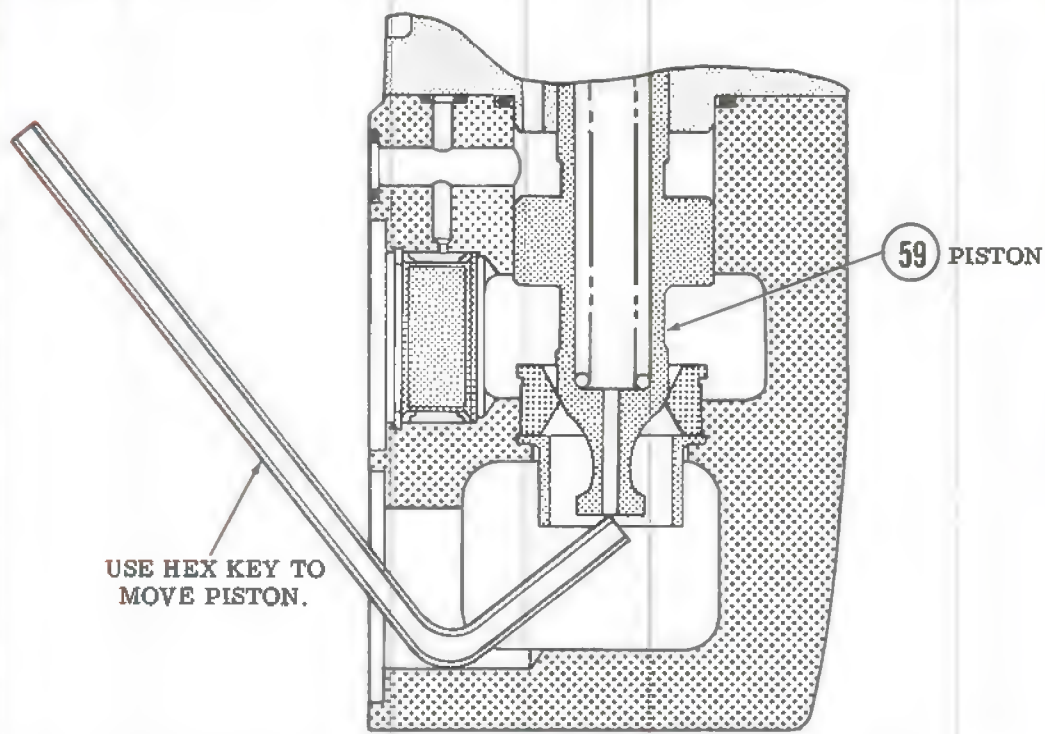

Figure 4. Check of main piston for bind.
3. If rollpin (69) was removed, make sure the mounting surface is flat before installation of a new rollpin.
4. Install plugs (67, 66, and 65) into body (71). Plug (67) exists on the -S6 models only. Use new "O" ring (68) on plug (67).
5. Install "O" ring (64), filter screen (63) and retaining ring (62) into body (71).
6. Install parts (59) through (54). Torque screws (54) hand tight, then use a hex key to move piston (59) within the valve (see figure 4). Piston (59) should not stick or show evidence of bind. Cross torque screws (54) to 112 lbf. in., (12.6 N.m) maximum. Check the piston again to see if a bind occurs.